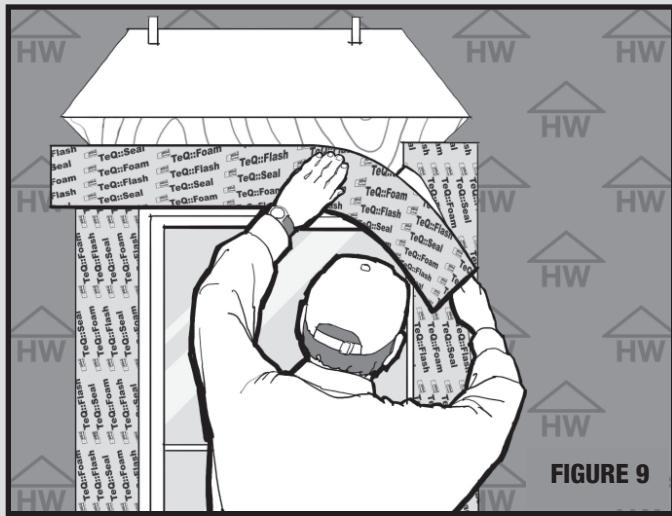

FIGURE 9
5.1.1. Head flashing should extend beyond jamb flashing by 1" on both sides. (Figure 9)